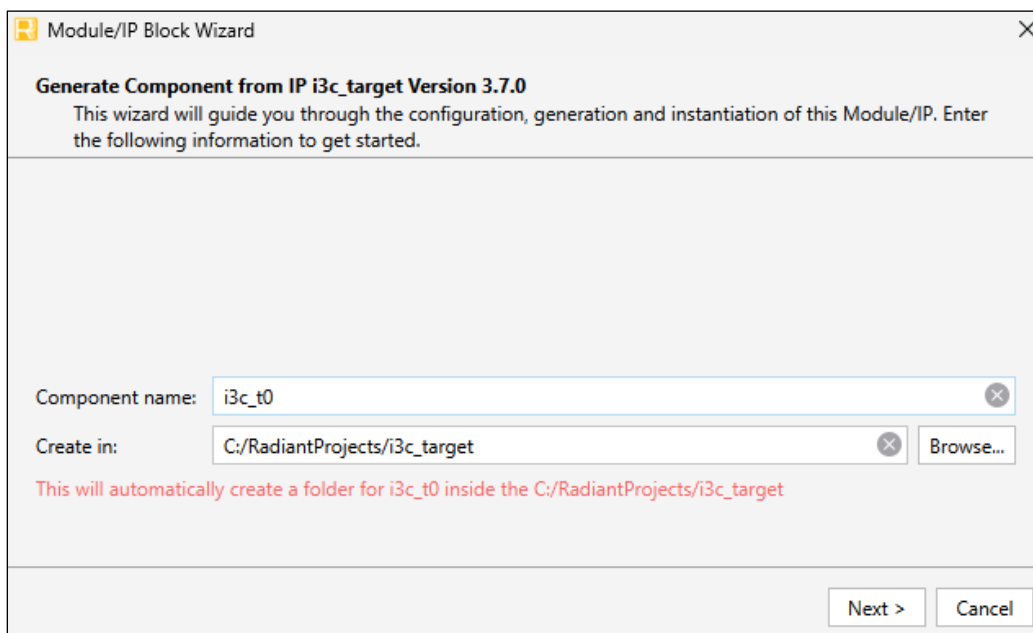

Figure 7.1. Module/IP Block Wizard
2. In the **IP Catalog** tab, double-click **I3C Target** under **IP > Processors_Controllers_and_Peripherals** category. The **Module/IP Block Wizard** opens as shown in Figure 7.1. Enter values in the **Component name** and the **Create in** fields and click **Next**.
- Click **Finish**. All the generated files are placed under the directory paths in the **Create in** and the **Component name** fields shown in Figure 7.1.